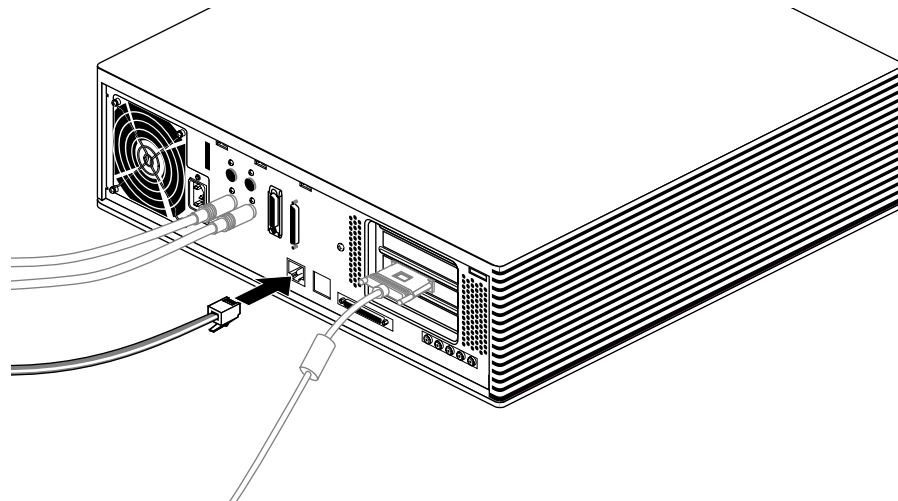

Figure 2-18 Attaching an Ethernet 10-BASE T Cable
2. Plug one end of the cable into the Ethernet 10-BASE T port on the back of the Indigo² IMPACT workstation, as shown in Figure 2-18.